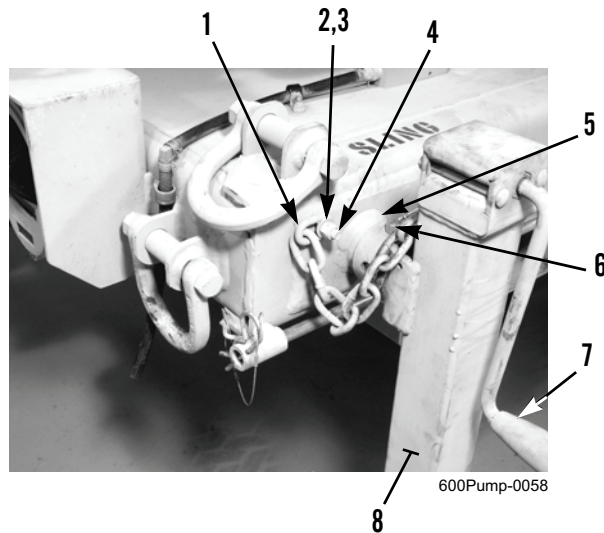

Figure 1. Rear Leveling Jack Assembly.
1. If stowed in horizontal (travel) position, remove pin (Figure 1, Item 6) and swing rear leveling jack assembly (Figure 1, Item 8) to vertical position. Reinstall pin.
2. Use crank handle (Figure 1, Item 7) to raise rear leveling jack assembly (Figure 1, Item 8) until sand pad is off the ground.
3. Remove locknut (Figure 1, Item 2) and washer (Figure 1, Item 3) from threaded stud (Figure 1, Item 4) and release security chain (Figure 1, Item 1) from trailer frame. Discard locknut.
4. Remove pin (Figure 1, Item 6) from rear leveling jack assembly (Figure 1, Item 8) and swivel joint (Figure 1, Item 5).
5. Remove rear leveling jack assembly (Figure 1, Item 8) from swivel joint (Figure 1, Item 5).
1. Position rear leveling jack assembly (Figure 1, Item 8) at swivel joint (Figure 1, Item 5), with rear leveling jack assembly in vertical position.
2. Install pin (Figure 1, Item 6) on rear leveling jack assembly (Figure 1, Item 8) and swivel joint (Figure 1, Item 5).
3. Install security chain (Figure 1, Item 1) on threaded stud (Figure 1, Item 4) at trailer frame with washer (Figure 1, Item 3) and new locknut (Figure 1, Item 2).
4. Use crank handle (Figure 1, Item 7) to extend and retract rear leveling jack assembly (Figure 1, Item 8) and check for adequate lubrication.